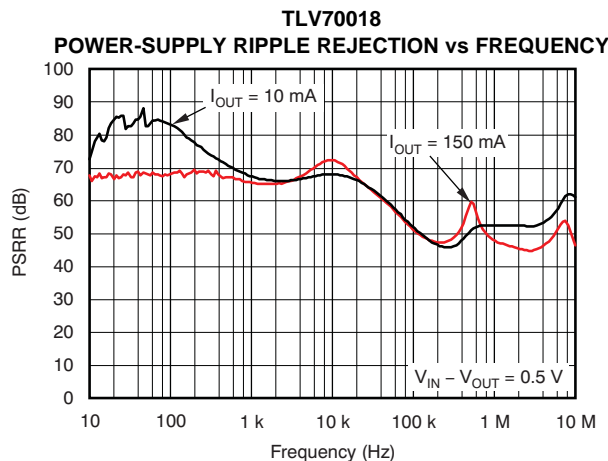

Figure 12.
- Deleted previous Figure 12, *Current Limit vs Input Voltage* typical characteristic 7